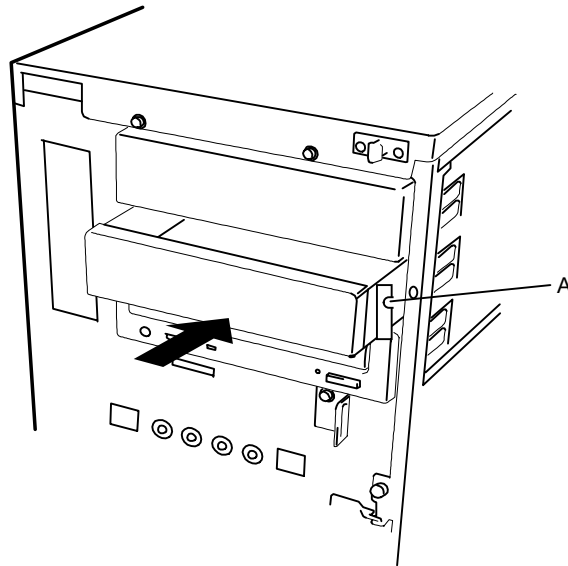

Figure 4-30. Installing a Removable Media Device
- Slide the device into the bay until the right slide rail is against the system cabinet. See Figure 4-30, A.
11. Secure the right side of the device to the system with the screw supplied. See Figure 4-30, A.